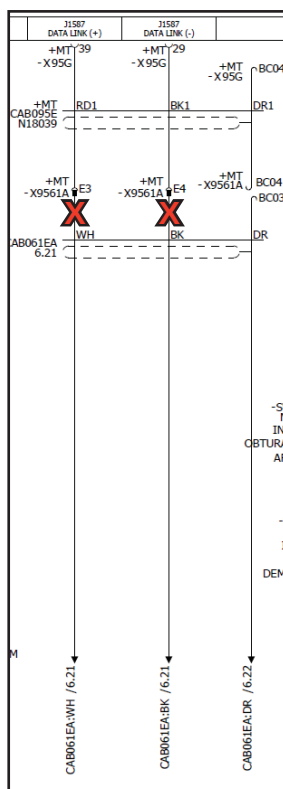

Figure 9 - Wires to be Cut and Insulated, and Sealing Plugs to be Installed on +MT-X9561A Connector
- 1.15. Remove the pins in positions E3 and E4 of the +MT-X9561A connector using the 682256 extractor tool or equivalent. See Figures 9 & 10.
- 1.16. Install a 12059168 sealing plug in positions E3 & E4 of the +MT-X9561A connector. See Figure 9.
- 1.17. Cut the pins on the two removed wires (positions E3 & E4 of the +MT-X9561A connector). See Figure 9.